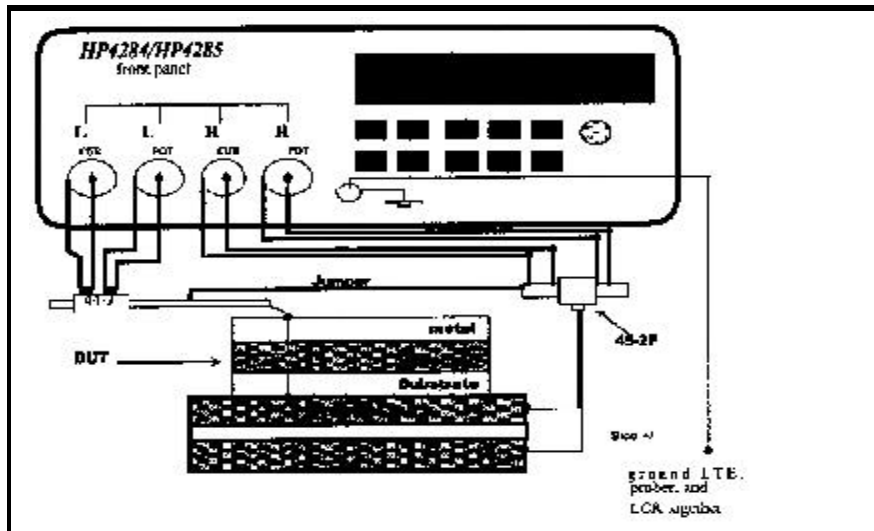

Figure 9; Hook-up for probe station without Kelvin wiring.
Figure 9 shows the recommended hookup for probe stations that are not configured with Kelvin wiring
(force and sense connections). Figure 9 also shows the use of Micromanipulator part number “45-2F”. 45-2F is an adapter that has two (2) female UMC connections and one (1) male UMC connection as illustrated by figure 7. Micromanipulator thermal chucks are equipped with a female UMC connection. Once the thermal chuck female connection is connected to the male UMC connection of the 45-2F adapter, two (2) model 49-30 patch cables are required to connect to the “high” terminals of the LCR meter. Also notice that a small jumper wire has been connected between the 45-2F adapter and the probe holder to shunt the LCR meter